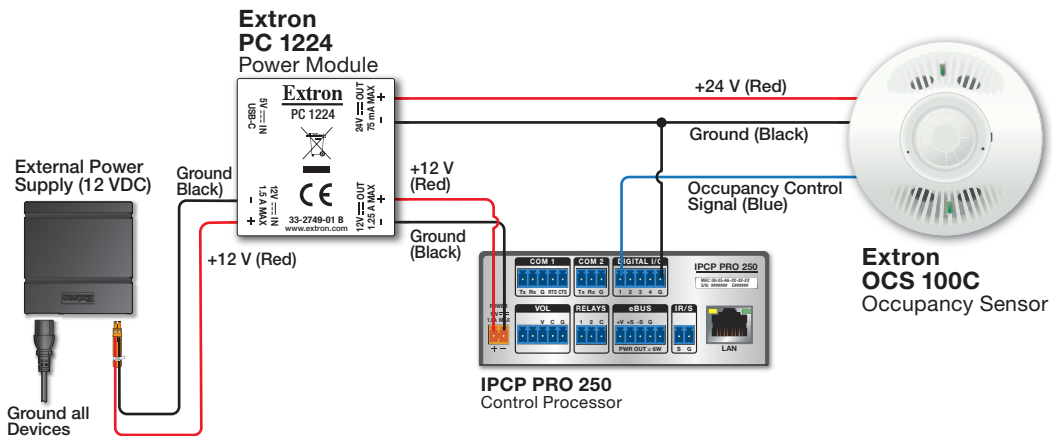
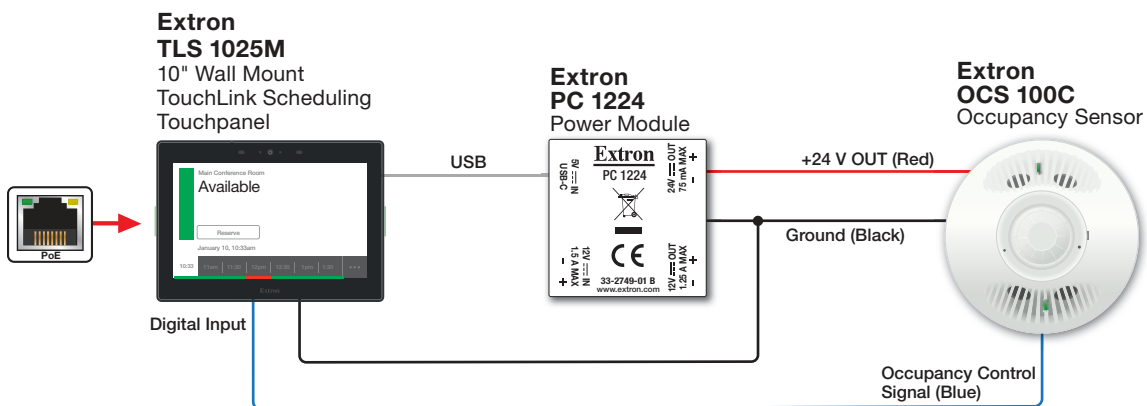

Figure 6. OCS 100C External Power Supply Wiring Diagram
Figure 7. OCS 100C USB Power Wiring Diagram
1. Connect a 12 VDC power source to the 12 VDC input on the supplied PC 1224 power converter (see figure 6), or power via the USB type-C 5 V input (see figure 7).